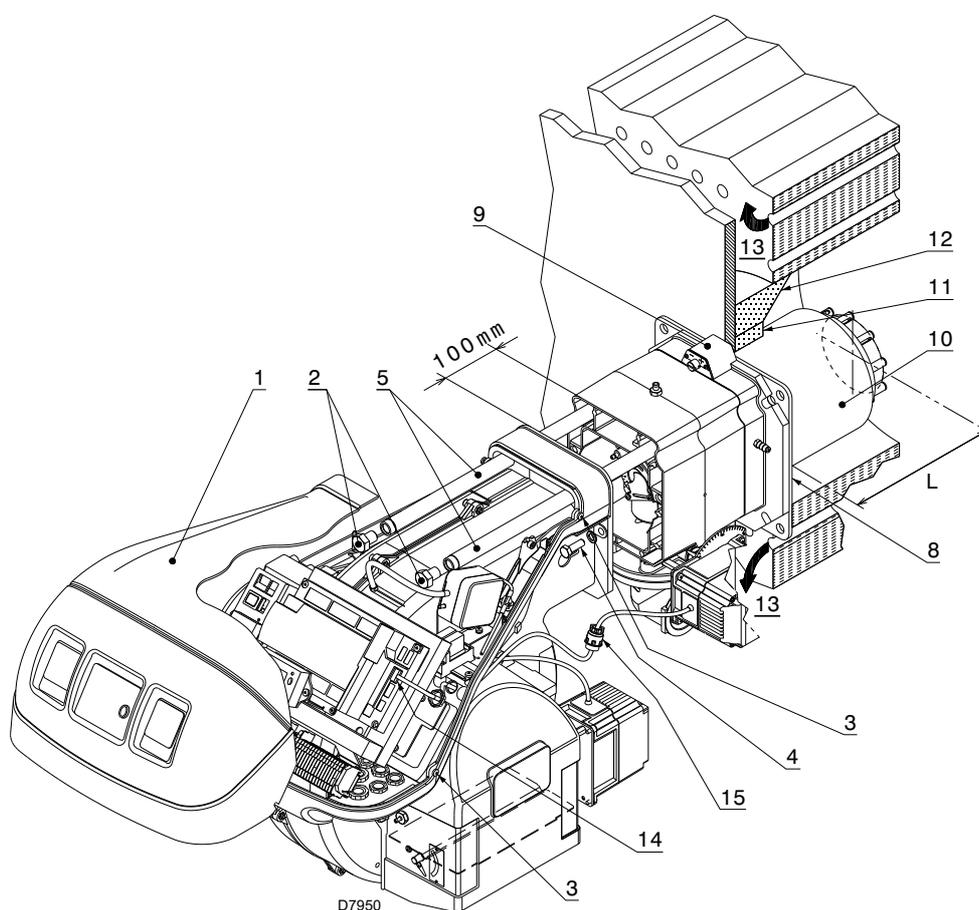

Fig. 17
For boilers with front flue passes 13)(Fig. 17 at page 27), or flame inversion chambers, a protection in refractory material 11) must be inserted between the boiler refractory 12) and the blast tube 10).
For boilers with a water-cooled frontal, a refractory cover is not necessary 11)-12)(Fig. 17), unless expressly requested by the boiler manufacturer.
Separate the combustion head from the rest of the burner, as in Fig. 17; proceed as follows:
- reassemble the burner on the guides 3) at about 100 mm from the pipe coupling 4) - burner in the position shown in Fig. 17;
- connect the plug of the servomotor 14)(Fig. 17) and tighten the grommet 15);